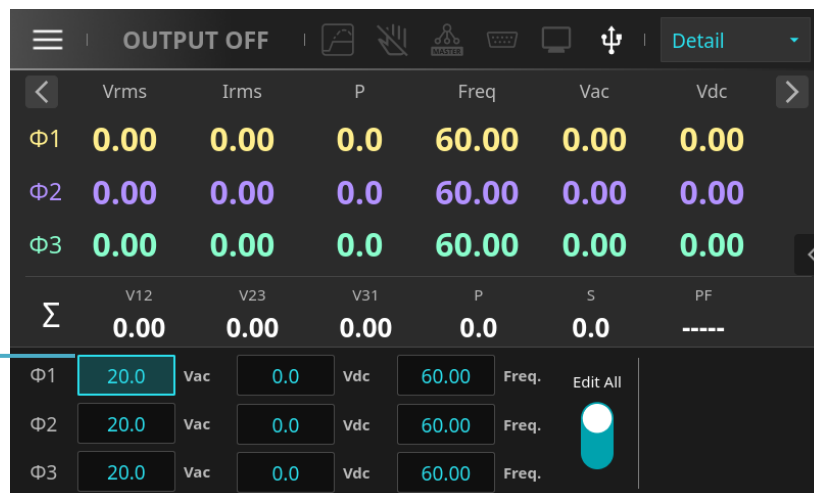

Figure 4-8: Press the knob to adjust the value
- After selecting a parameter item, pressing the rotary knob will enter the adjustment mode for that parameter. This is equivalent to pressing the “Enter” key (see Figure 4-8).